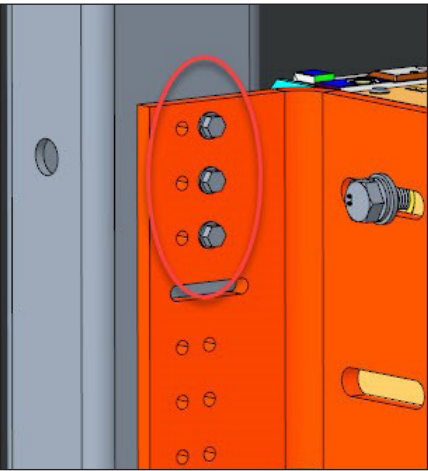
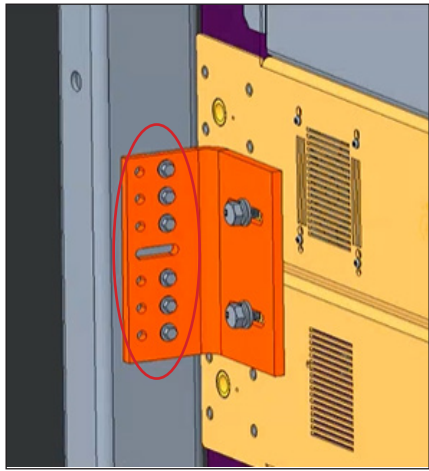

Figure 12: Top Clip
Figure 13: Middle Clip Across Seam
10. Attach the clips to the structure by either welding or installing the self-drilling screws. The number of self-drilling screws required depends on the clip location: clips across cabinet seams require six screws, while clips along the top/bottom of the display require three screws. Refer to **Figure 12**, **Figure 13**, the **Structural Self-Drilling Screws Installation Guide (DD5549390)**, and the **DVX/DVS-32XX Series Vertical Mounting Welded Clip Attachment Quick Guide (DD5549389)**.
**Note:** There are two columns of six holes each available for screw installation. Choose either column of holes. Three screws are used for each M12 bolt. Alternating between columns is not permitted. The center slot connection is intended to be used for initial mounting adjustment only. The slot screw is not considered a structural connection. Refer to **Figure 12**.